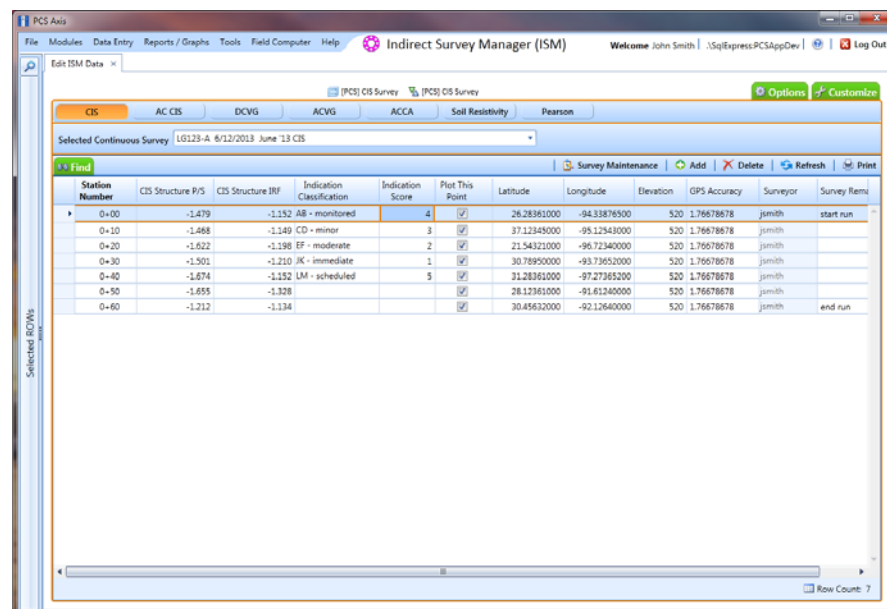

Figure 6-62. Edit ISM Data
- 3 Click **Data Entry > Edit ISM Data** to open the ISM data entry grid. Then click a button labeled with the type of continuous survey data you want to work with, such as the **CIS** button  (Figure 6-62).